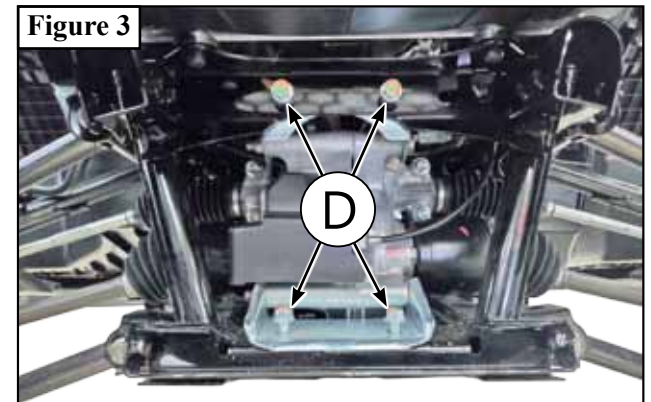

Figure 3
2. Remove differential bracket bolts (D) as shown in **Figure 3**.